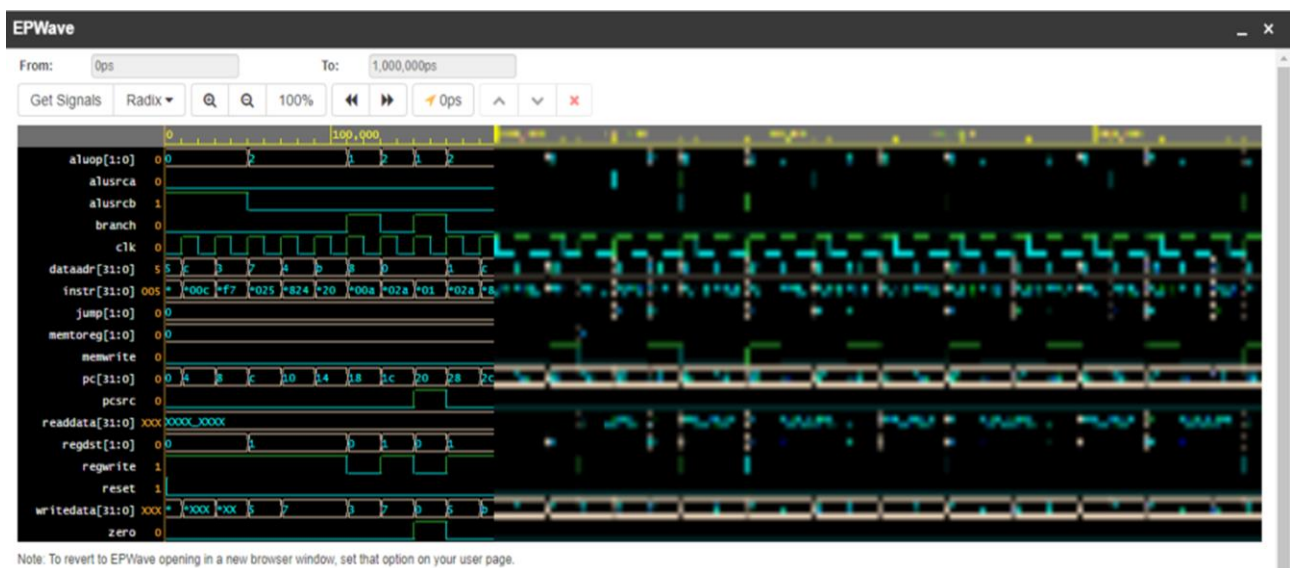

Figure 2: Example Waveform
- e) **[10 Points]** Now make a SystemVerilog testbench file on EDAPlayground and simulate your MIPS-lite processor executing the test program (Refer to *How to Visualize Waveform in EdaPlayground*). Do not change the instructions in the imem module use it as is. Study the generated waveform. Find each instruction, and understand its values. **Take a screenshot of the waveform and paste it to the report.** Your waveform should be similar to the below image (see Figure 2, some part of the image is obfuscated intentionally). Make sure that your output shows the exact same variables. Be aware that if you run the “Complete MIPS Model.txt” without implementing “jr” instruction you will see continuous X values towards the end.